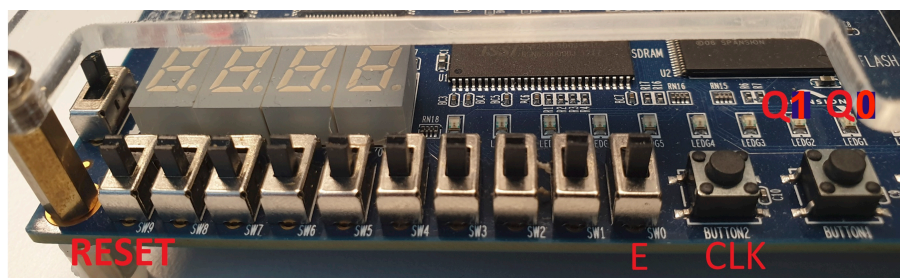

Figure 4.1: Pin mapping on FPGA board
3. Assign the circuit ports to the FPGA pins as shown in Table 4.1. Figure 4.1 shows how they are mapped on the FPGA board.